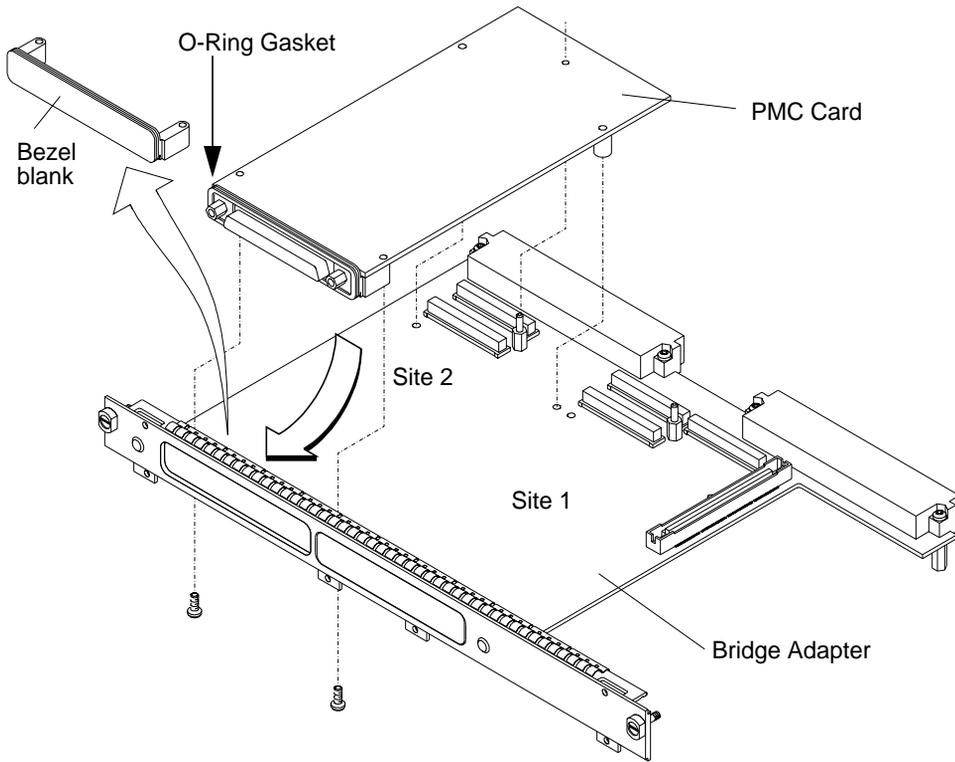

Figure 2-6 Installing a PMC Card onto the PMC Bridge Adapter
- 2 On the PMC bridge adapter, at the sites where you will be installing the PMC card(s), remove the two screws that secure the bezel blank(s), and remove the blanks. See Figure 2-6.
- 3 Install the PMC card(s) onto the bridge adapter by aligning the front of the card with the front bezel, and on the rear of the card with the connectors and post. See Figure 2-6. There are four screws that secure the PMC card from the bottom of the bridge adapter.